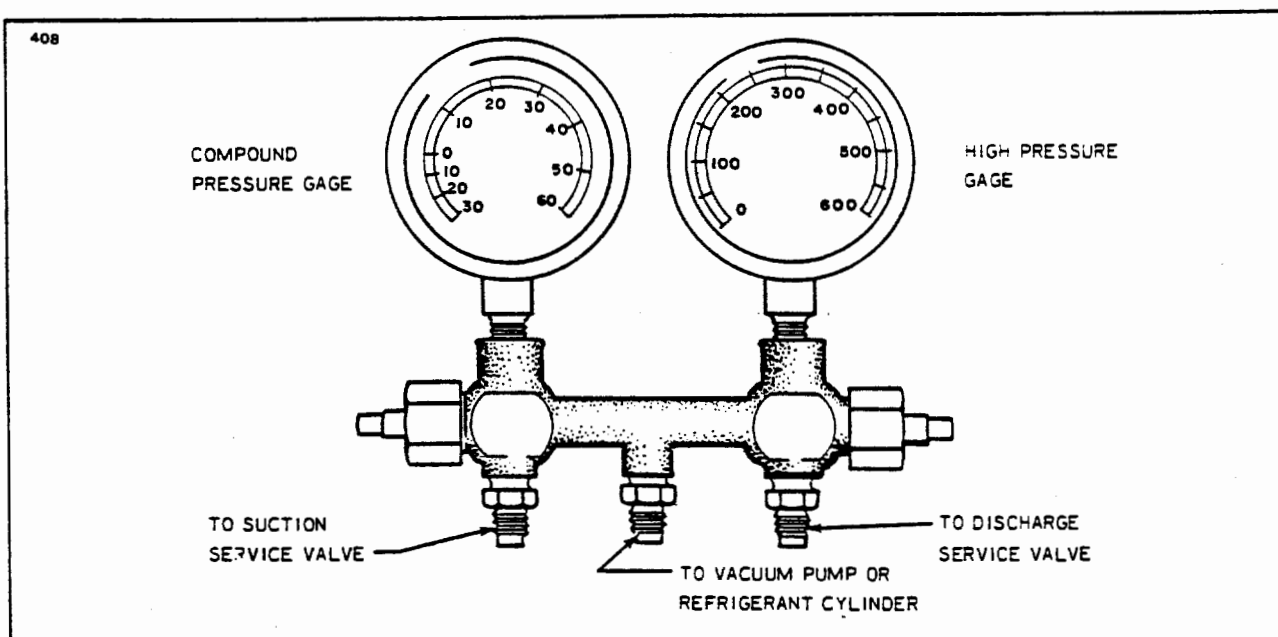

Figure 14-3. Test Gauge and Manifold Set
14-8. TEST GAUGE AND MANIFOLD SET. The proper testing and diagnosis of the air conditioning system require that a manifold gauge set be attached into the system. This set consists of two gauges mounted to a manifold. One gauge is a high pressure gauge used in the discharge side of the system. The other is a low pressure gauge used in the suction side of the system. The manifold is a device having fittings for both gauges and connection hoses with provisions for controlling the flow of refrigerant through the manifold. See Figures 14-3 and 14-4.
Cracking the hand valve, in the counterclockwise direction, opens the system to the middle service port of the manifold set. This is desirable only when it is necessary to let refrigerant out or into the system. Refer to Figure 14-3 and 14-4.
- c. The high and low manifold hand valves should be in the closed position. (Refer to Figures 14-3 and 14-4.)